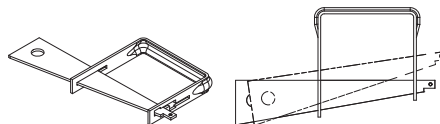

Fig. A2.05b
- For slab props \varnothing 76 – 89 mm, and 100 mm x 100 mm up to 120 mm x 120 mm. (Fig. A2.05b)